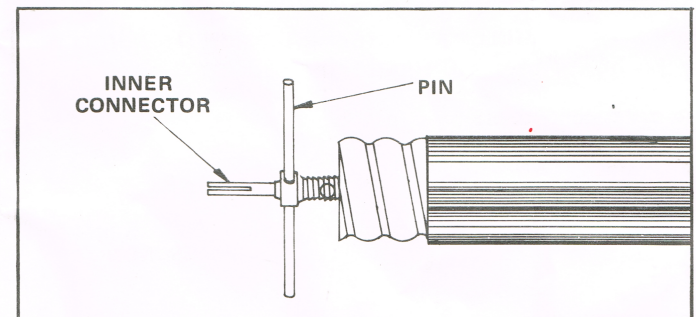

FIGURE 2
STEP 2. Screw self-tapping inner connector into inner conductor. Place pin provided through hole in connector and use it as handle to help in tapping. Refer to Figure 2. Tighten inner connector. Do not overtighten, as threads made in inner conductor may strip.